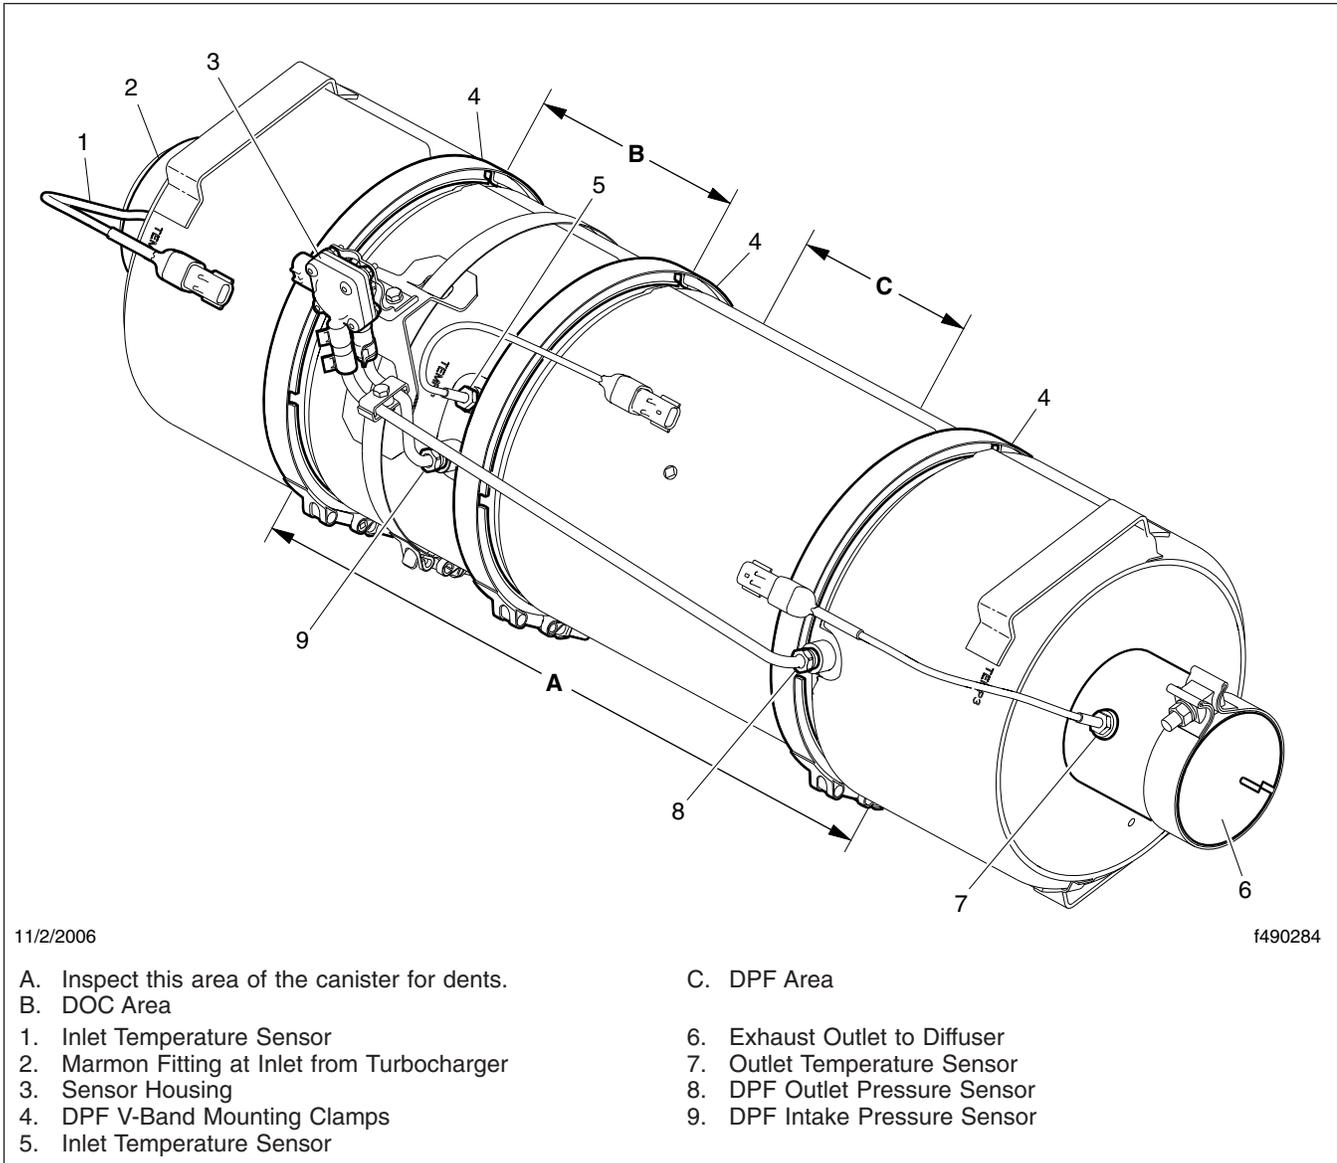

Fig. 2, Cummins Aftertreatment Device
system components. See **Fig. 2**. In particular the aftertreatment device (ATD), which is part of the aftertreatment system (ATS), requires special attention during regularly scheduled maintenance inspections. If any discrepancies are discovered, refer to the engine manufacturer's service literature for repair instructions.
7. Check the DPF exterior surface for dents or other damage. See **Fig. 2**, Item A. A dent over 3 inches (76 mm) in diameter and 1/4-inch (6-mm) deep could cause internal damage to the DPF, causing it to malfunction.